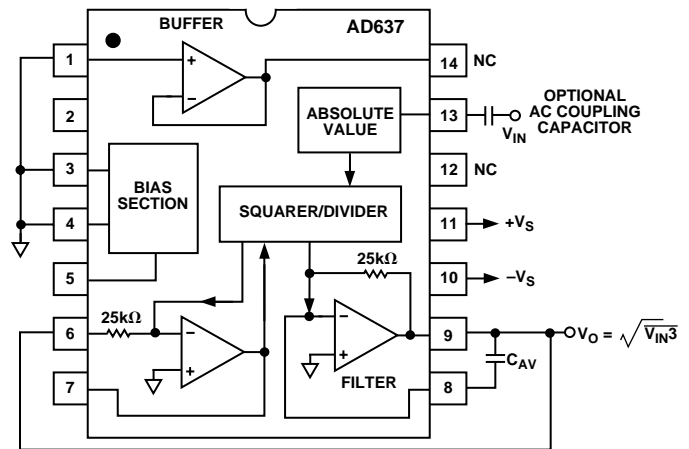

Figure 2. Standard RMS Connection
- 1Accuracy specified 0-7 V rms dc with AD637 connected as shown in Figure 2.
The AD637 is simple to connect for a majority of rms measurements. In the standard rms connection shown in Figure 2, only a single external capacitor is required to set the averaging time constant. In this configuration, the AD637 will compute the true rms of any input signal. An averaging error, the magnitude of which will be dependent on the value of the averaging capacitor, will be present at low frequencies. For example, if the filter capacitor  $C_{AV}$ , is 4  $\mu$ F this error will be 0.1% at 10 Hz and increases to 1% at 3 Hz. If it is desired to measure only ac signals,
the AD637 can be ac coupled through the addition of a non-polar capacitor in series with the input as shown in Figure 2.